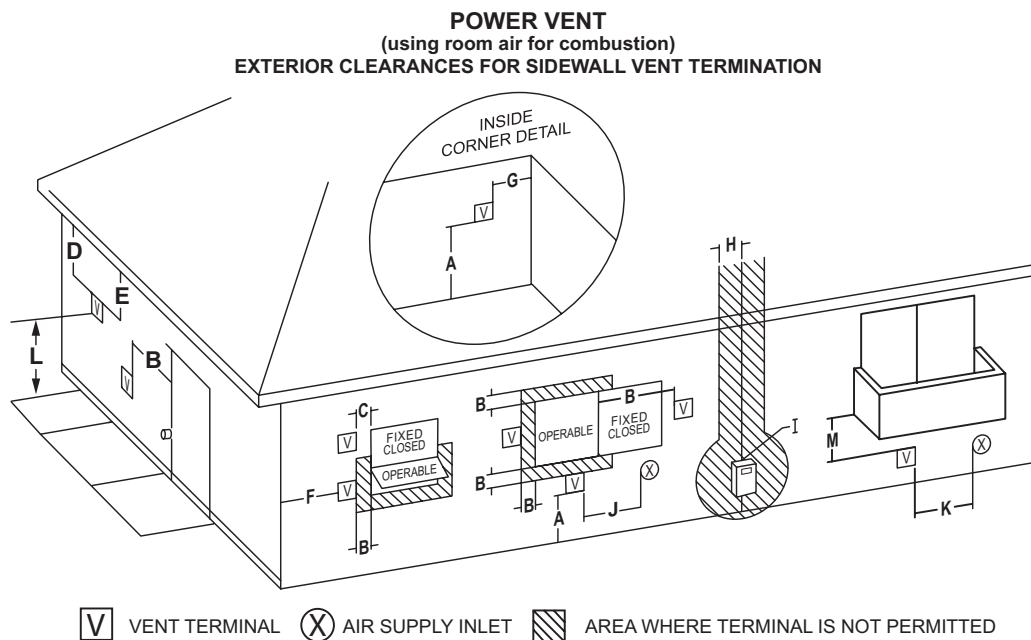
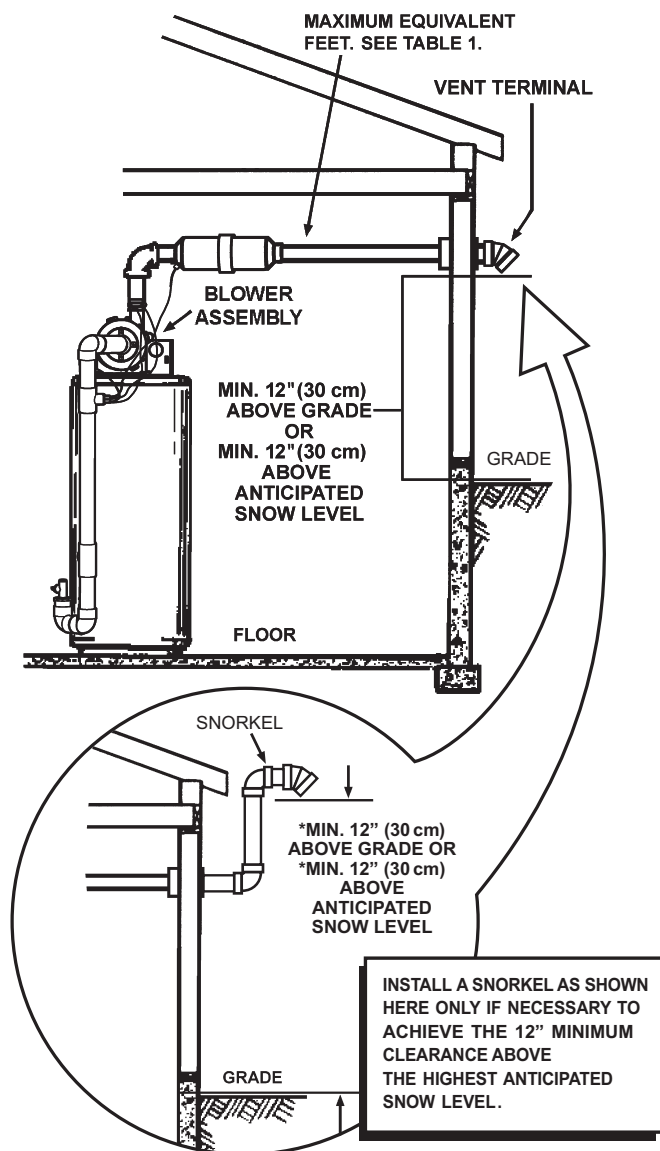
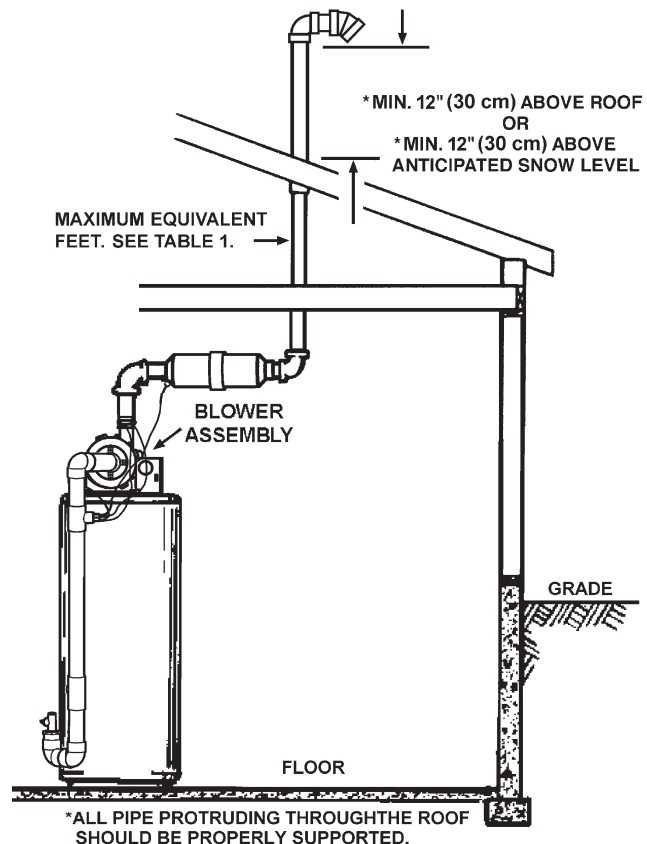

FIGURE 15.
FIGURE 20
FIGURE 21
The first step is to determine where the vent pipe will terminate. See Figures 15, 20 and 21. The vent may terminate through a sidewall as shown in Figure 20 or through the roof as shown in Figure 21.
Instructions on proper installation through a sidewall are provided in Figure 15.
If necessary to achieve the 12" minimum clearance above the highest anticipated snow level, install a snorkel as shown in bottom portion of Figure 20.
1. Vent Termination must extend a minimum of 12 inches (30 cm) above roof or 12 inches (30 cm) above the anticipated snow level to prevent blockage of the vent termination, as shown in Figures 20 and 21.